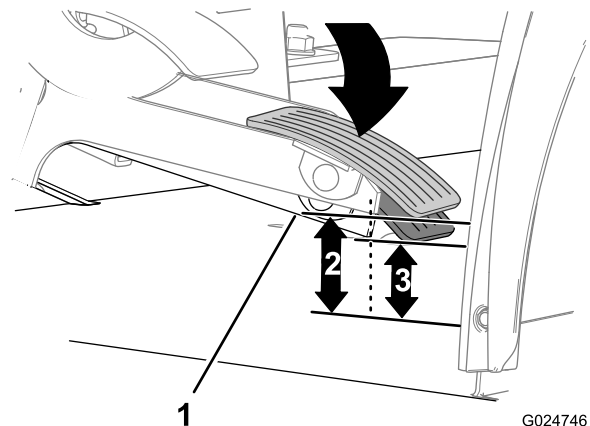

Figure 43
1. With the accelerator pedal up, measure the distance from the rearward-bottom corner of the accelerator-pedal arm to the floor (Figure 43).
2. Gently move the throttle pedal down until the free play is removed from between the accelerator pedal and the throttle cable (Figure 43).
3. While holding the pedal in position to remove the free play, measure the distance from the rearward bottom corner of the accelerator-pedal arm to the floor (Figure 43).